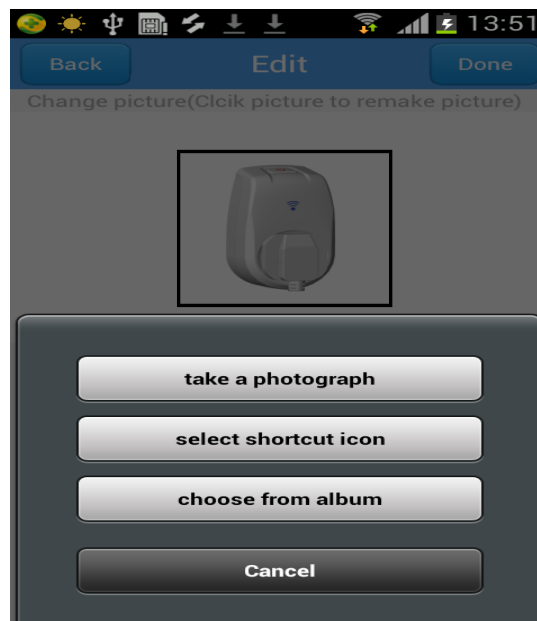

Figure 22
- You can also modify the device icon (see Figure 22). Click the icon place will pop up "take a photograph", "select shortcut icon" and "choose from album" dialog box, then select the electrical picture that the socket connected to, and